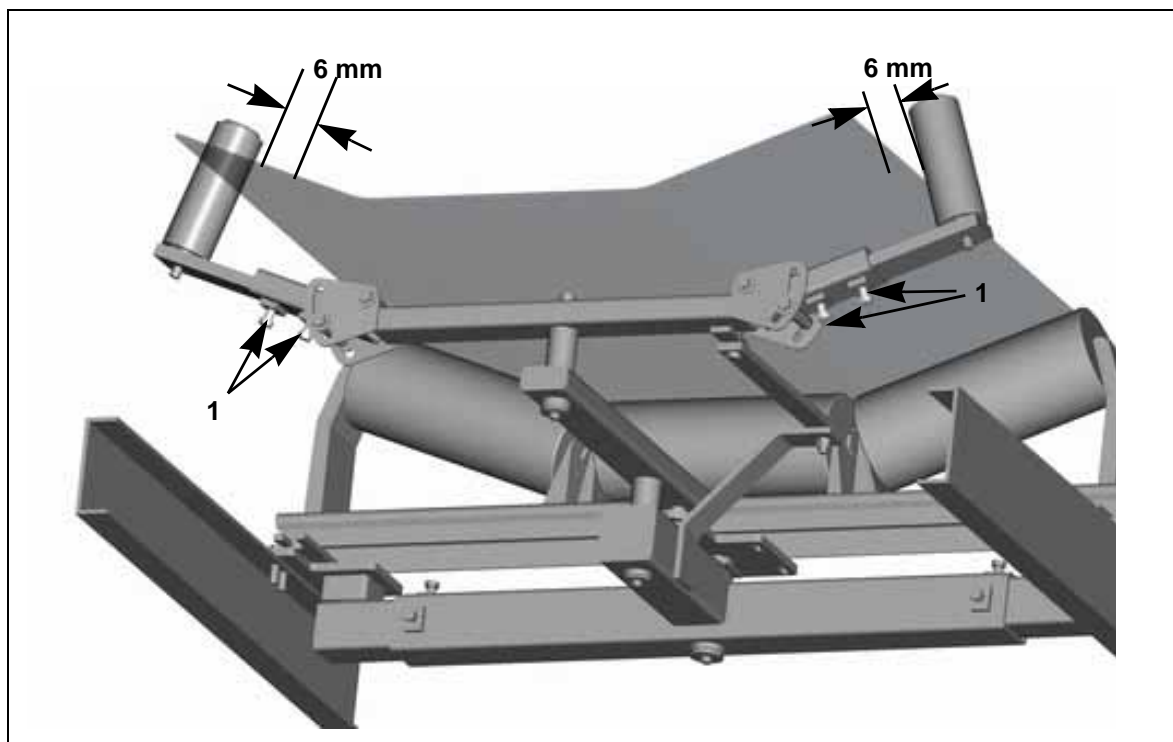

Fig. 25: Adjusting the sensor roller unit
14. Install the sensor roller unit approx. 6 mm from the conveyor belt edge and secure it with the arresting screws (1, Fig. 25).